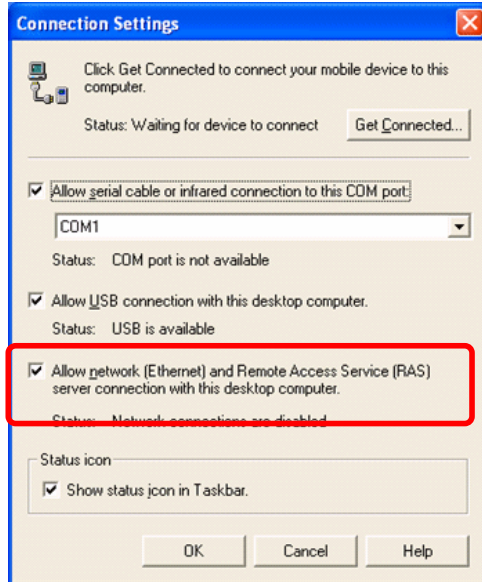

Figure 5.36
1. On the PC, make sure **Allow network [Ethernet] and Remote Access Service [RAS] server connection with this desktop computer.** has been set enabled (see Figure 5.36).